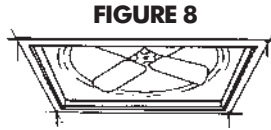

FIGURE 8
1. The shutter itself is 7/8" larger all around than the shutter opening. Draw alignment marks (Figure 8) on the ceiling to indicate the outer edges of the shutter frame. Use the Shutter Dimension Chart on page 4 for size.